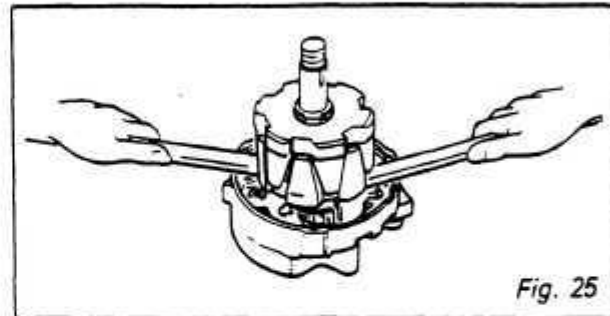

Fig. 25
5. Remove four through bolts (17), washers (18), attachment bracket (19), nut (31), washer (32), recessed in front housing (22).
6. Withdraw front housing (22).
7. Remove stator (21).
8. With suitable levers, remove rotor (30) from rear housing (20).
9. Remove bearing (36) from spigot on rotor (30) with suitable puller. *Fig. 25*